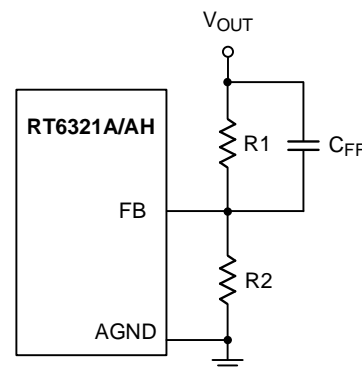
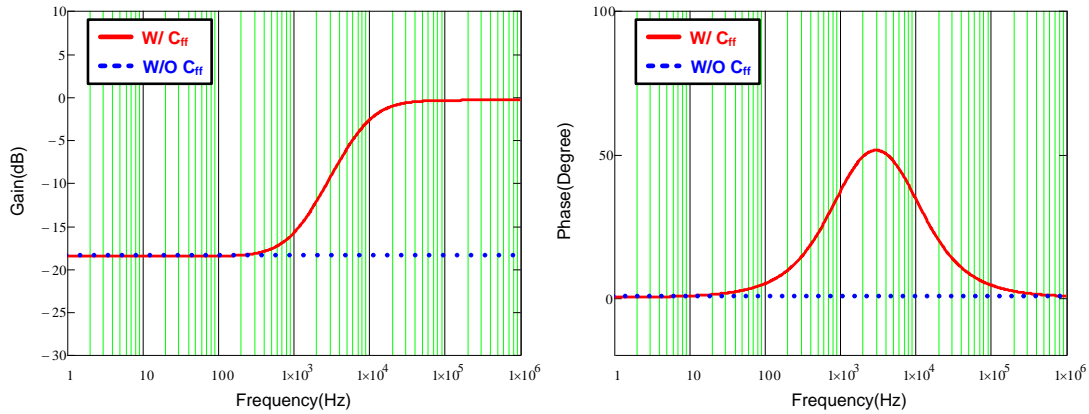

Figure 9. RT6321A/AH Feedback Loop with Feedforward Capacitor
Figure 10. Bode Plot with Different Feedback Loop Conditions
To save time for compensator design and to reduce the layout area through external components, the components of compensator are integrated in the IC. However, this integrated compensator might not be suitable for every load transient specification. Hence, to make RT6321 more adaptable, the feedforward capacitor C_{FF} is used in the feedback loop to improve transient response, as shown in Figure 9. Figure 10 shows the comparison result of bode plot with different feedback loop conditions. Referring to Figure 10, through connecting a C_{FF} in feedback network, the gain and phase are raised in mid-frequency, which not only extends the bandwidth, but also boosts the phase margin. Moreover, there is also a high frequency pole to eliminate high frequency noise. Consequently, those features of feedforward feedback network allow the RT6321 to have faster response to different load transients.
According to Figure 10, the maximum phase boost that occurs between zero and pole frequencies is defined as maximum phase boost frequency, as expressed in equation (4). Hence, in order to achieve the maximum phase boost by adding C_{FF} in the RT6321, the system's original bandwidth has to be located at maximum phase boost frequency.